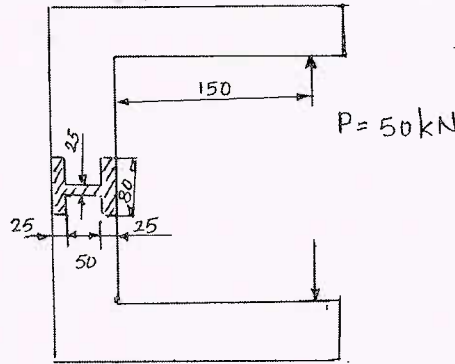

Fig. Q1(b)
b. Determine the extreme fibre stresses at the critical section of the machine member loaded as shown in Fig.Q1(b). Also show the distribution of stresses at this section. (12 Marks)